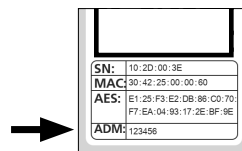

Fig. 5
- ! **Note:** Provided you have not changed it, the factory administrator code can be found in your cylinder documentation. The factory-assigned administrator code can be found next to the abbreviation "ADM" on the QR code sticker (Fig. 5).